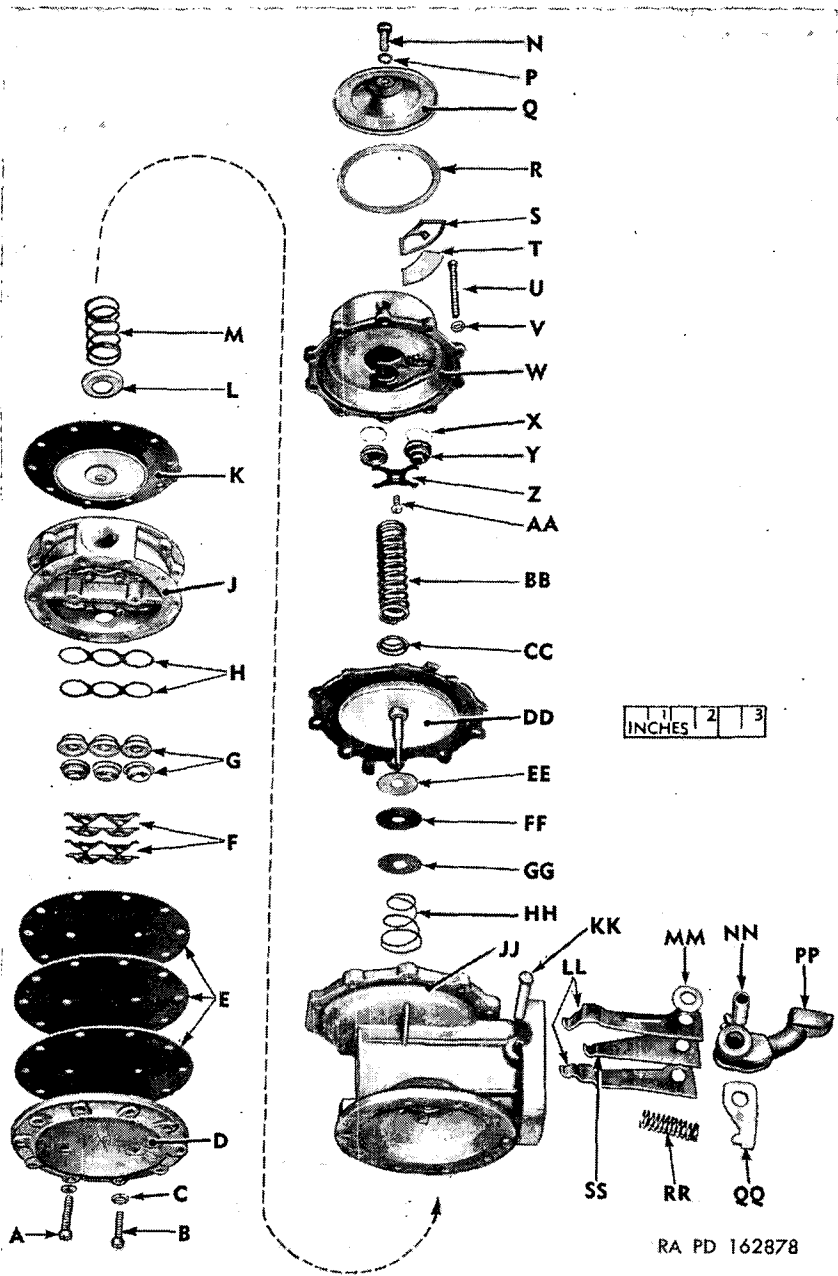

Figure 52. Fuel and vacuum pump—disassembled (typical series BK and BN construction).
a. Assemble Body (fig. 52).
- (1) Place fuel section gasket and seal in recess of body with dished portion of seal down. Press down firmly with flat end of $\frac{7}{8}$ -inch diameter round bar. Retain by staking die cast lip in four places.
- (2) Assemble link spacer over fuel link. Place one vacuum link on each side of fuel link.